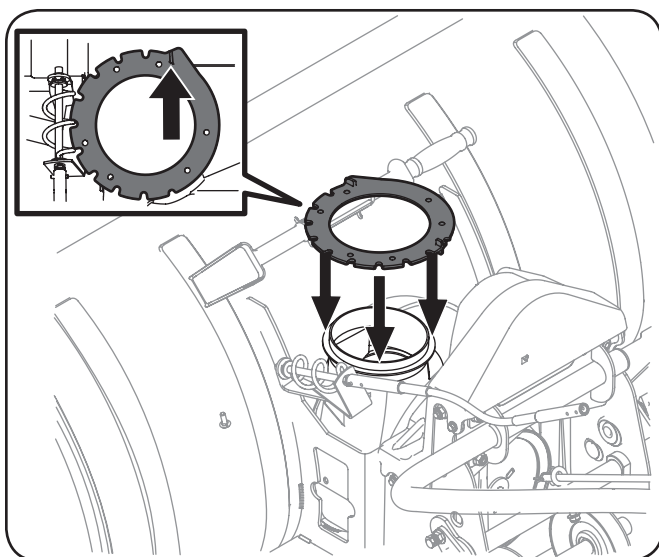

Figure 3-15
2. Position the chute ring on top of the auger housing's chute adapter. See Figure 3-15.